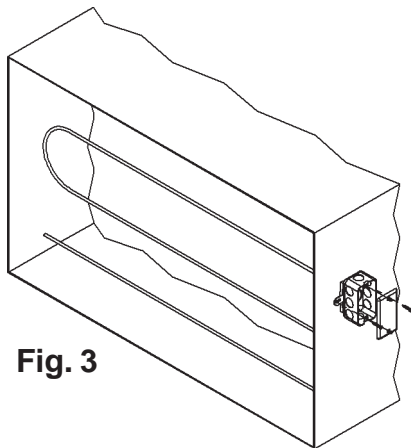

Fig. 3
2. Figures 3 and 4 (below) show two acceptable mounting configurations. Other mounting configurations may be used, as long as the averaging element is held securely and is evenly spaced across the air flow. Nylon wire ties are provided to secure the averaging element. When forming the averaging element to a desired shape, **be sure that the bend diameter is greater than 6 inches.**